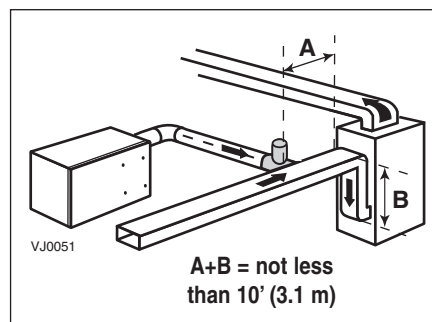

Figure 7
- Connect this opening to one end of the top section of a metal T coupling (the T will be reversed, see shaded part in Figure 7).
- Connect the other end of the T coupling top section to the fresh air distribution port of the HRV (see Figure 7).